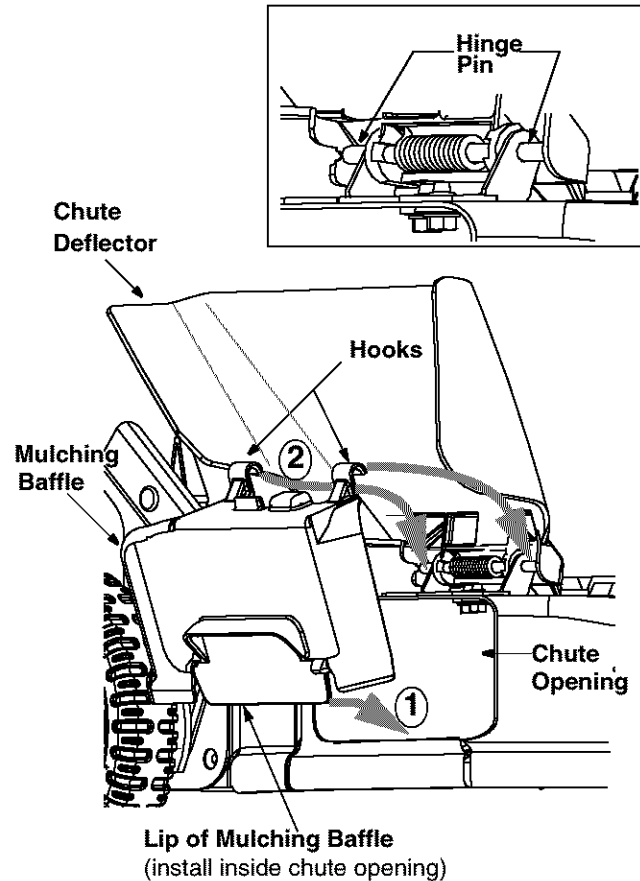

Figure 6
- Insert bottom lip of the mulching baffle **inside** the chute opening. See Figure 6 .
- Snap hooks of the mulching baffle over the hinge pin of the chute deflector. See Figure 6. The hooks must snap into place on the hinge pin, locking the mulching baffle firmly onto the mower. For a close-up of the hinge pin location, see inset.